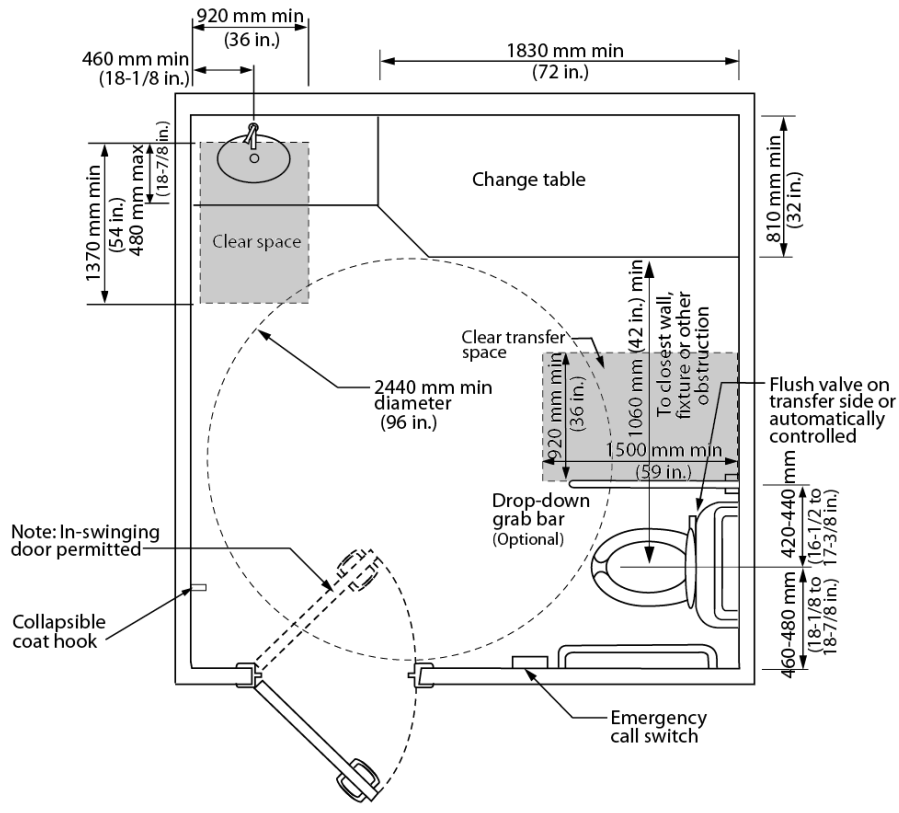

Figure 78: Universal Washroom
- Provide space for adult-sized change table (810 mm wide by 1830 mm long minimum) in each universal washroom (Figure 78)